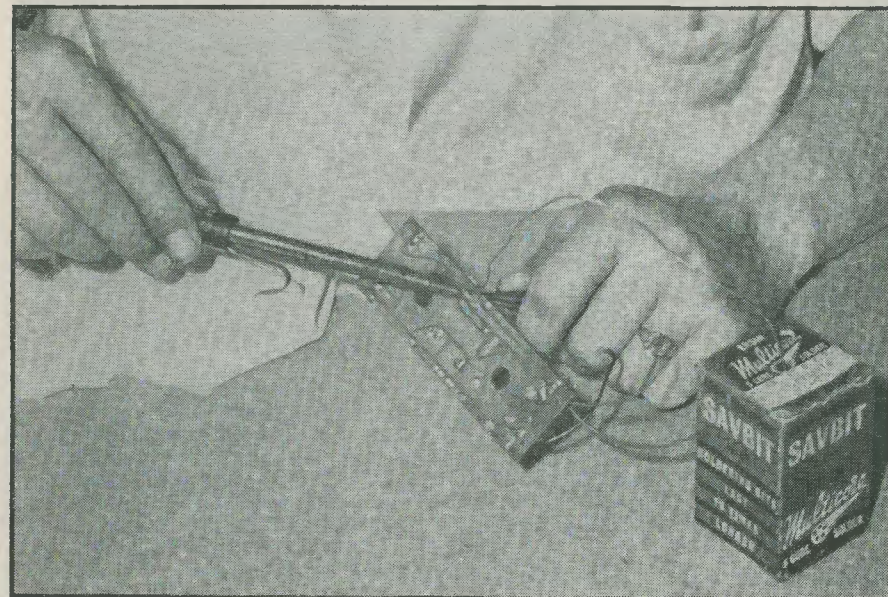

Fig. 6 Soldering-in a resistor
19. Apply a heat shunt to each wire before soldering—this is particularly important for transistor wires—and apply the soldering iron tinned surface to the copper adjacent to the wire and apply the resin-cored solder at the same time to both copper and wire (Fig. 6). If maximum heat is applied to the copper and less to the wire, the solder will quickly run to form a small bright blob around the wire. Both iron and solder should be removed as soon as the wire has been completely encircled since excess heat or solder does no good at all.